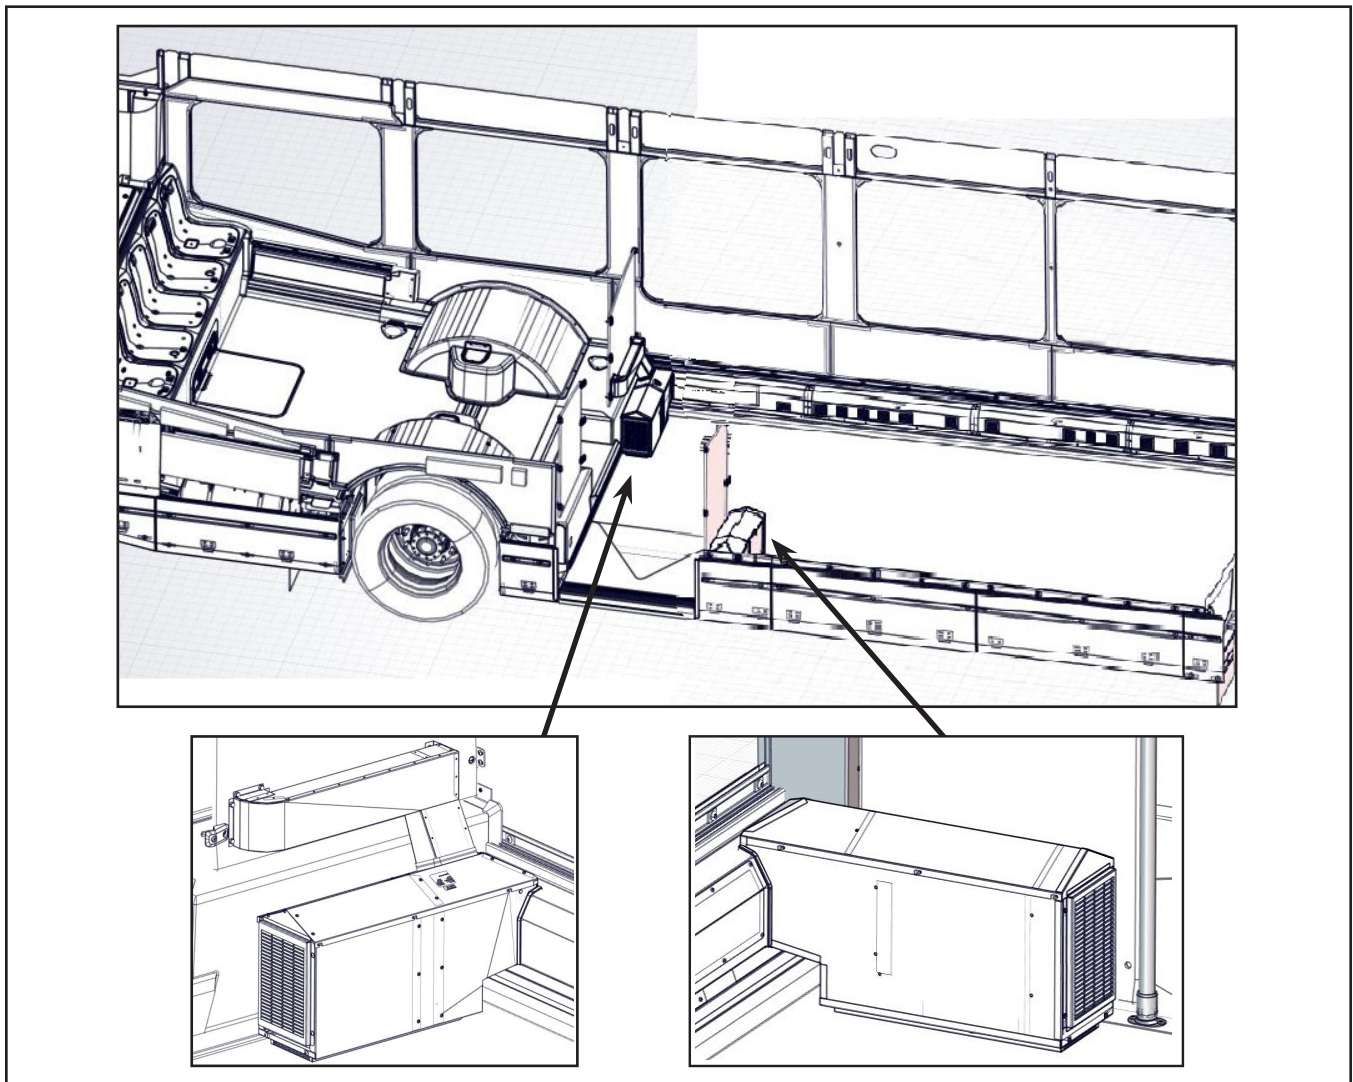

Figure 1 - Location of the Two Heater Boxes
- 1.2. Locate the two heater boxes in the vehicle (Figure 1).